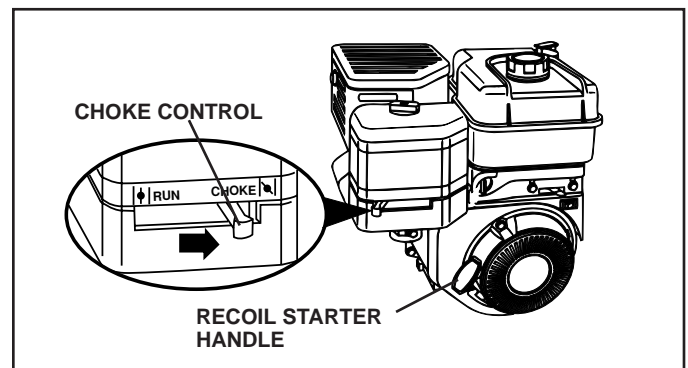

FIG. 14
## TO START ENGINE (See Fig. 14)
- You will find tilling much easier if you leave a row untilled between passes. Then go back between tilled rows. (See Fig. 14) There are two reasons for doing this. First, wide turns are much easier to negotiate than about-faces. Second, the tiller won't be pulling itself, and you, toward the row next to it.